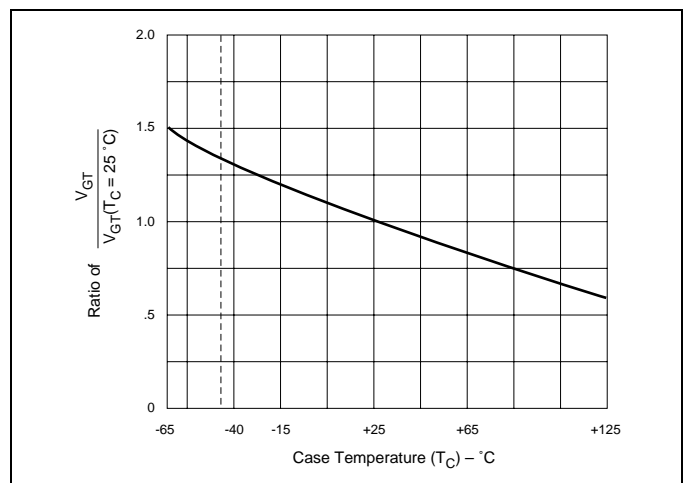

Figure E2.12 Normalized DC Gate Trigger Voltage for All Quadrants versus Case Temperature
- See Figure E2.12 for  $V_{GT}$  versus  $T_C$ .